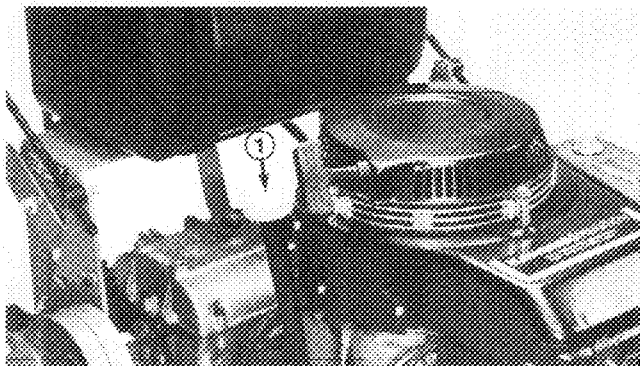

Figure 7
3. Remove dipstick (Fig. 7).
5. Wipe end of dipstick with clean rag and insert it into filler neck. Then remove the dipstick and check level of oil by reading the dipstick (Fig. 7). If level of oil is low, add only enough oil to raise level to FULL mark on dipstick. **DO NOT ADD OIL SO LEVEL RISES ABOVE FULL MARK BECAUSE ENGINE COULD BE DAMAGED WHEN IT IS STARTED.**